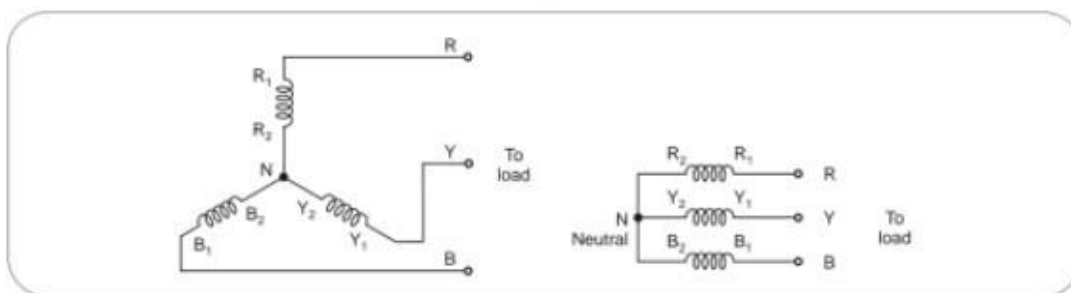

Fig. 1.5.2 Star connection
- The star connection is shown in the Fig. 1.5.2.